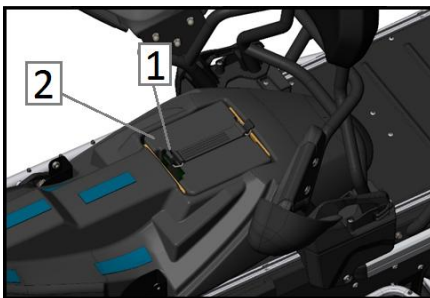

Fig. 35
2. Remove the seat (see item 12 of control device, instrument and equipment)
3. Remove the fixed rubber belt (posture 1, Figure 35)
4. Remove the battery cover (position 2, Figure 35)